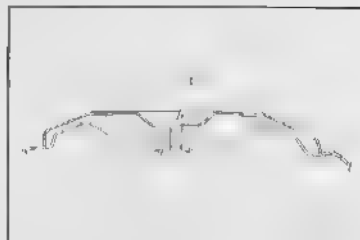

Fig. 4.46 Cross-sectional view of side cover installation
- 2 Use the proper size bolt (6×10 mm hex bolt) to install the slide cover on the tank. Long bolt will bottom on the tank and result in puncture. (Fig. 4.46)